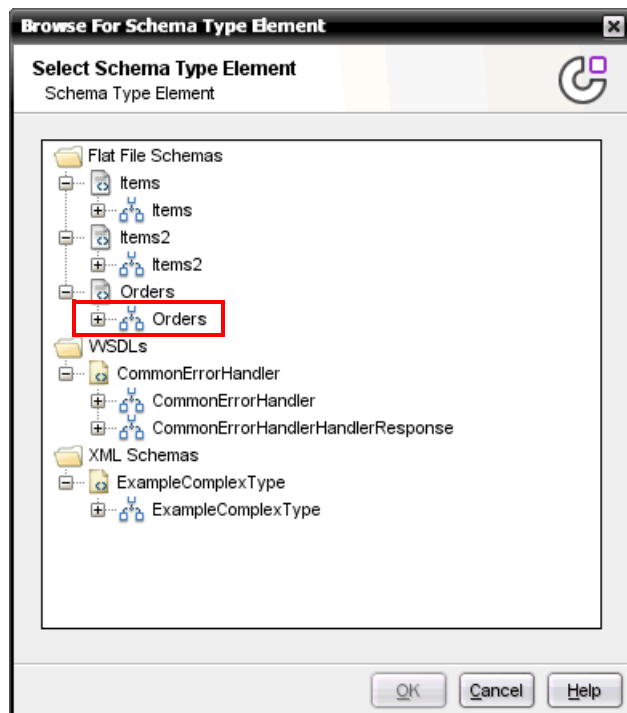

Figure 3-97 The Browse For Schema Type Element window
4. Add input and output complex data types to the mapping editor by clicking either **Select Inputs** or **Select Outputs**. The Browse For Schema Type Element window shown in Figure 3-97 opens. Select a record node, and then click **OK**. An example of a record node is highlighted in the figure.